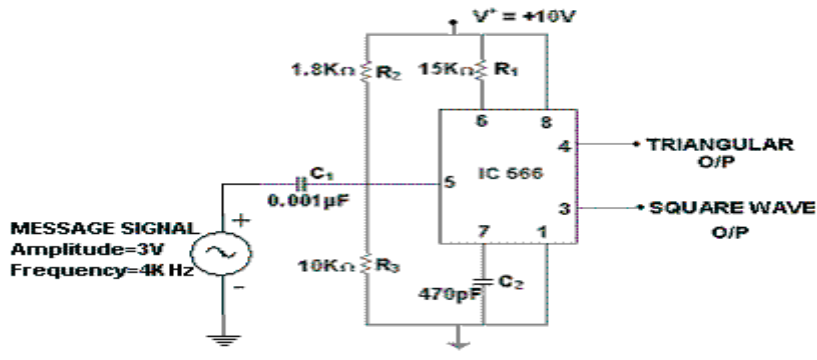
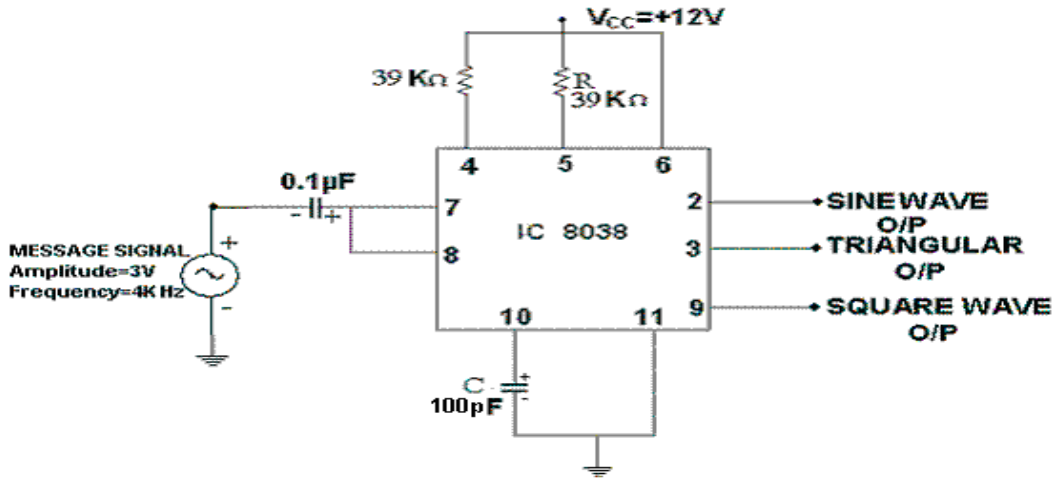

Fig.1. FM Modulator Using IC 566
Fig.2. FM Modulator Circuit
1. The circuit is connected as per the circuit diagram shown in Fig.2( Fig.1 for IC 566)